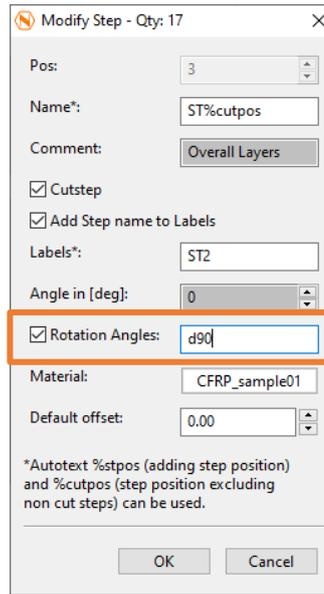

Figure 248
39. Activate the **[Rotation Angles:]** checkbox and enter “d90” (Figure 248)